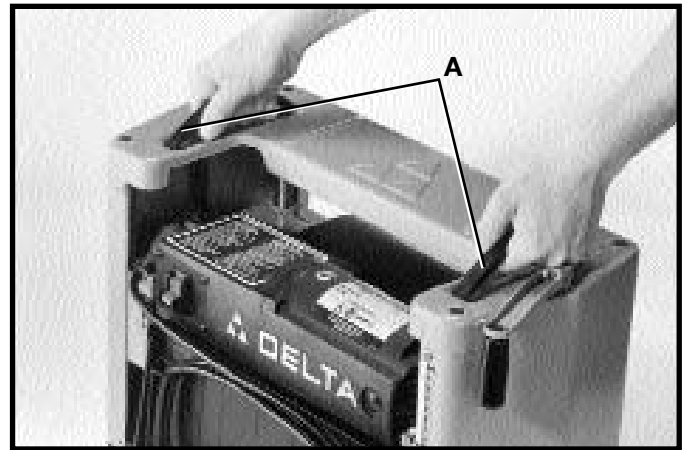

Fig. 23
Your planer is provided with two lifting straps (A) Fig. 23, located on the top of the planer, for ease in transporting the planer.